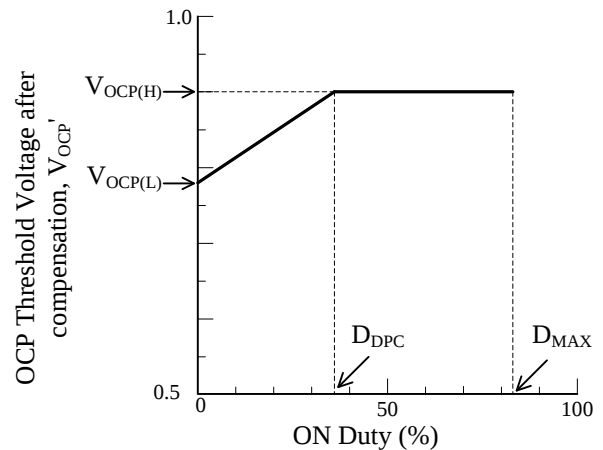

Figure 9-15. Relationship between ON Duty and Drain Current Limit after Compensation
The Input Compensation Function is the function of correction of OCP threshold voltage depending with AC input voltage, as shown in Figure 9-15. When AC input voltage is low (ON Duty is broad), the OCP threshold voltage is controlled to become high. The difference of peak drain current become small compared with the case where the AC input voltage is high (ON Duty is narrow). The compensation signal depends on ON Duty. The relation between the ON Duty and the OCP threshold voltage after compensation V_{OCP}' is expressed as Equation (6). When ON Duty is broader than 36 %, the V_{OCP}' becomes a constant value $V_{OCP(H)} = 0.9\text{ V}$.